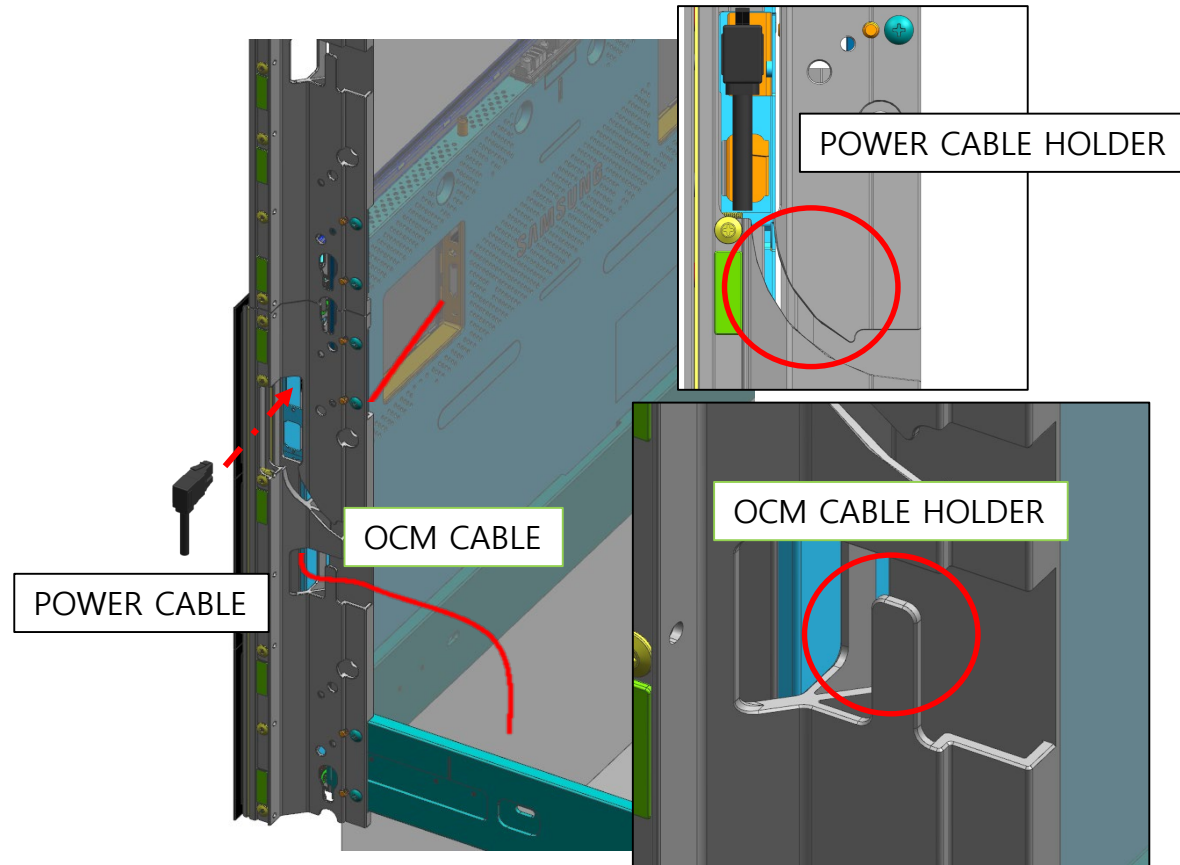

Fig.2
* The left CABINET Z SEAM is adjusted by Fastening ② Screws as shown in the figure. (Fig.2)